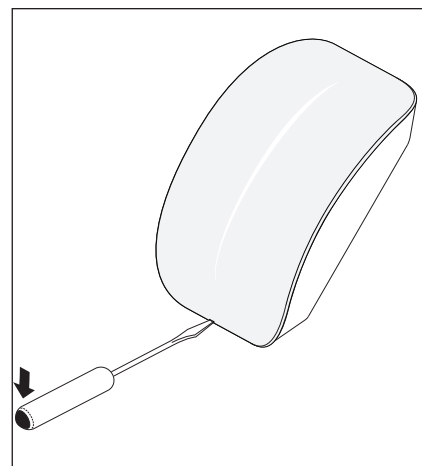

Figure 5: Removing the Cover
1. Insert a flat screwdriver into the slot on the bottom of the 1137 cover housing and gently push down on the screwdriver handle while pulling the halves apart. See Figure 5.
1. Remove the top housing containing the PCB and lens assembly. Insert a flat screwdriver into the slot on the bottom of the housing and gently lift the screwdriver handle while pulling the halves apart. See Figure 5.